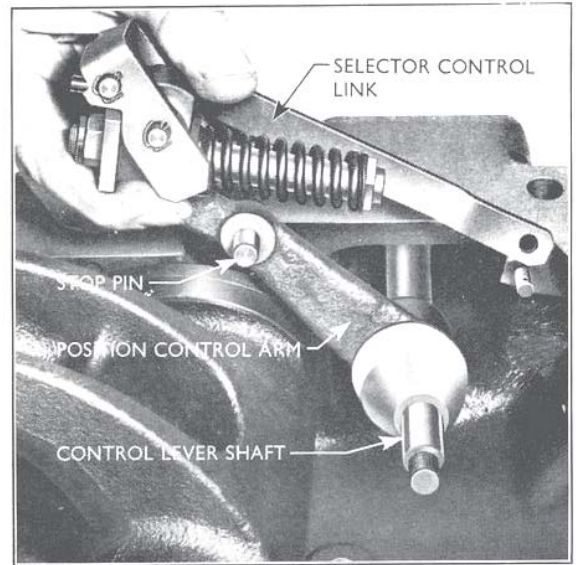

Fig. 32
4. Place this assembly in the lift cover with the eccentric on the shaft facing inwards (see Fig. 32) and connect the selector control link to the selector control arm. Secure with a flat washer and split pin.